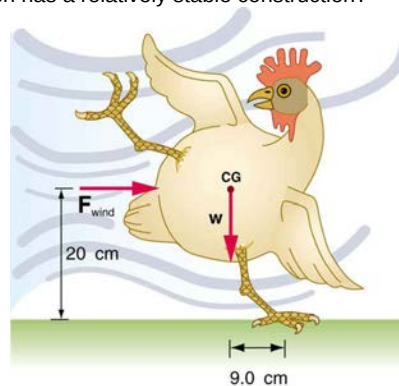

Figure 9.33
- (a) What force must be exerted by the wind to support a 2.50-kg chicken in the position shown in **Figure 9.33**? (b) What is the ratio of this force to the chicken's weight? (c) Does this support the contention that the chicken has a relatively stable construction?